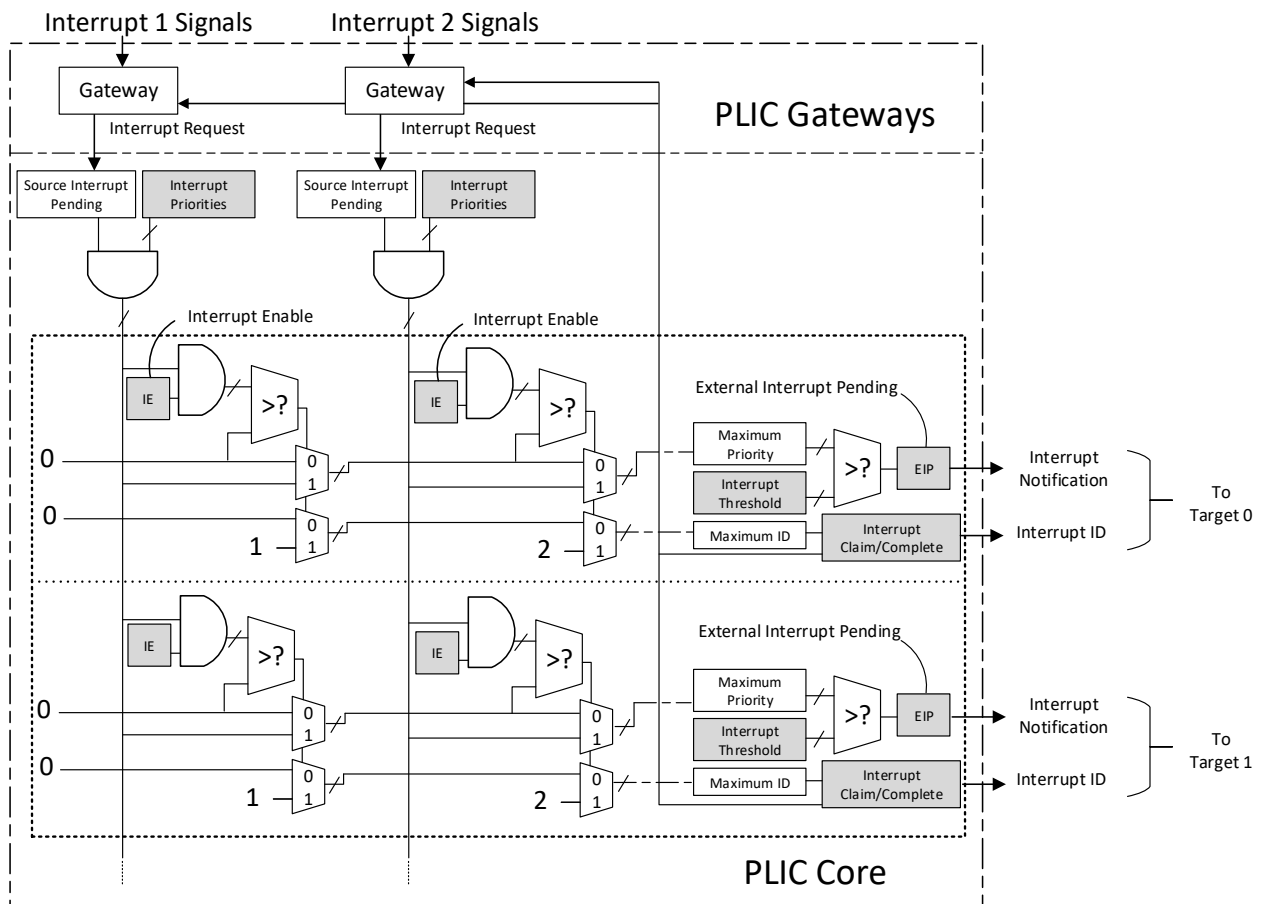

Figure 2.7. PLIC Operation Parameter Block Diagram
Figure 2.7 shows the block diagram of PLIC operation parameter. An example for how it works: interrupt input 1 gets asserted, it goes through the Gateway and sets Interrupt Pending bit of the Source. If its Interrupt Enable (IE) is set, the priority value can be passed and compared to other inputs all the way through the chain. The interrupt ID is similarly forwarded. So, if the Max Priority is larger than the threshold, External Interrupt Pending (EIP) can be asserted and sent to the processor. Meanwhile, the Gateway blocks subsequent interrupts from being forwarded until the current interrupt has been completed. Target 0 goes to Machine mode external interrupt, and Target 1 goes to Supervisor mode external interrupt.